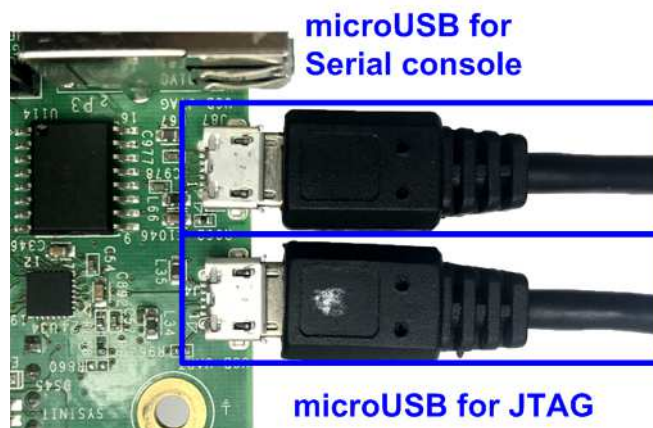

Figure 2-5 USB cable connection
- 6) Connect two micro USB cables between FPGA board and PC for FPGA programming and Serial console, as shown in Figure 2-5.